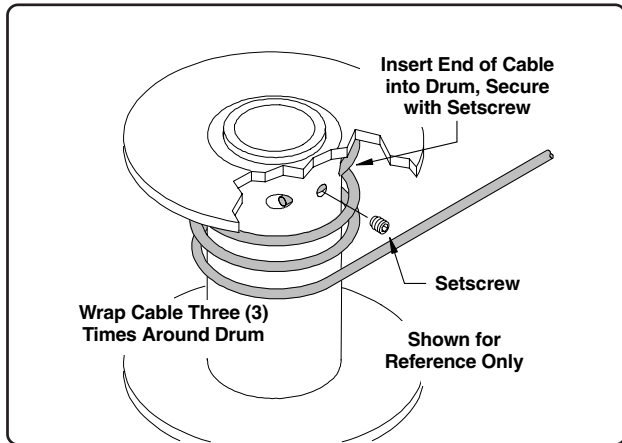

Fig. 33
1. After oil has been added, position the winch below the winch mount plate and secure to mount using four (4) 1/2" x 1 3/4" bolts, lock washers and non-lock nuts (See illustration on Page 71).
2. Locate the 3/8" dia. lift cable (see the following chart for cable lengths) and attach cable to winch drum. Make three (3) wraps of cable around the winch drum, then insert the end of the cable into one of the larger holes on the drum (it may be necessary to loosen the setscrew to allow the cable to slide through the opening, See Fig. 33).